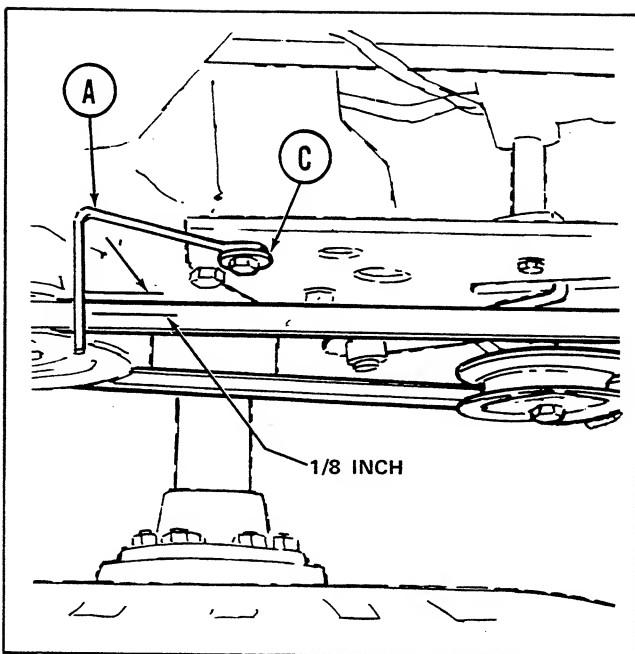

Figure 11. Belt Stop Adjustments.
See figure 11. With the clutch-brake pedal released, the belt stops at (A) and (B) should be positioned as shown. There should be $1/8$ " clearance between belt stop (A) and the belt as shown. If adjustment is required, loosen the cap screw at (C) and position the belt stop correctly. Tighten cap screw (C) securely after making the adjustment.